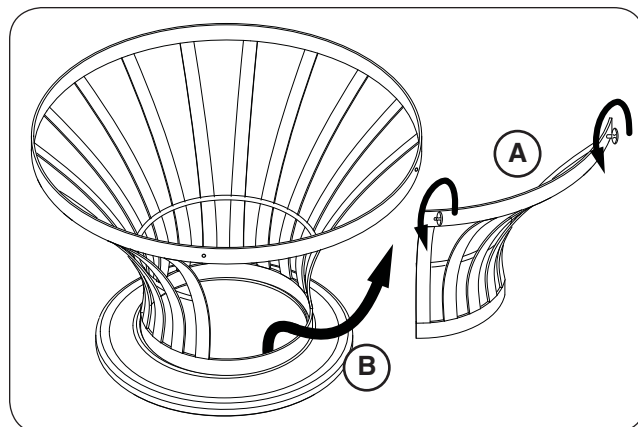

Fig. 18-2 Four-piece models: remove door
2. Remove the storage door by first turning the two thumb screws counter-clockwise, then carefully pulling the door up and outward (see Fig. 18-2). Store in a safe location.